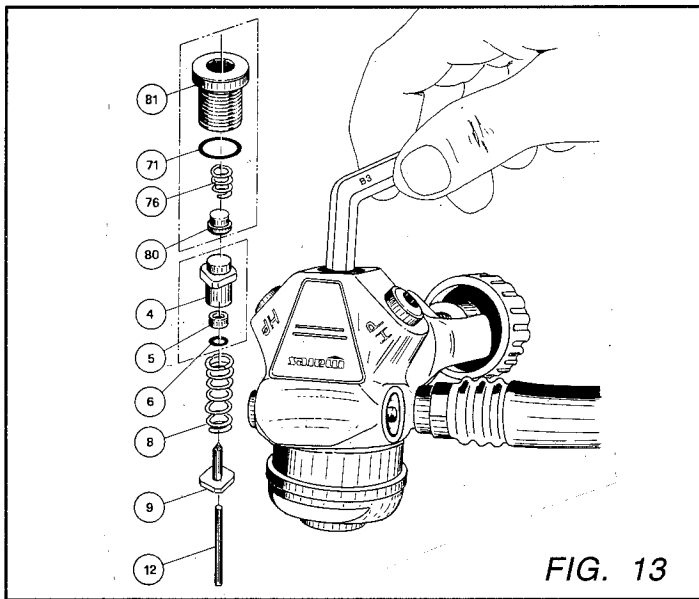
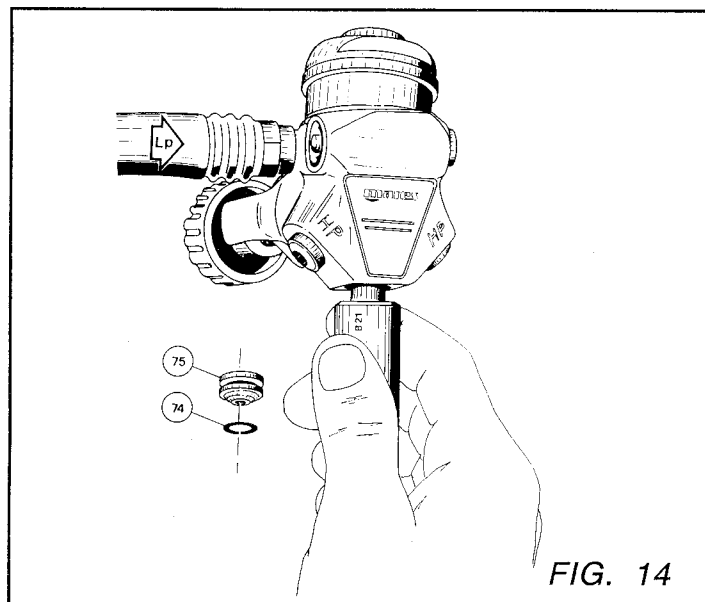

FIG. 13
FIG. 14
3. Remove the first stage cover (81-71-76-80) using hex wrench (B3) (Fig. 13).
4. Remove locking head (80) and spring (76) from the first stage cover.
5. Remove poppet retainer assembly (4-5-6), spring (8), poppet (9) and poppet pin (12) from the first stage body (Fig. 13).
6. Remove o-ring (6) from poppet retainer.
7. Remove backup ring (5) from poppet retainer.
8. Place tool (B21) over the first stage poppet seat (75). While maintaining light pressure against the tool, pressurize the second stage hose with low pressure air (below 100 psi) (Fig. 14).